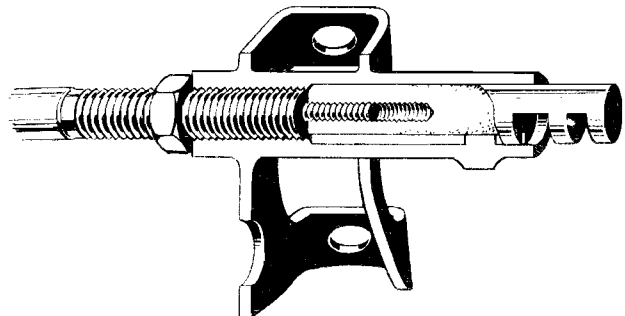

Fig. 17. Attachment of Overdrive cable to selector shaft (L.H.S.).
6. Screw the outer cable of the control into the bottom bracket (Fig. 17) until it just begins to move the Selector Shaft outwards. Leave the lock nut slack.
12. Screw the outer cable into the bottom bracket Fig. 17, until the end of this cable butts against the end of the overdrive selector shaft, in which position the outer cable acts as a stop for selector shaft. Tighten lock nut and move the gear shift into "Top" Gear. Fit cable supporting clip on convenient clutch housing bolt, open eye and pass over cable.